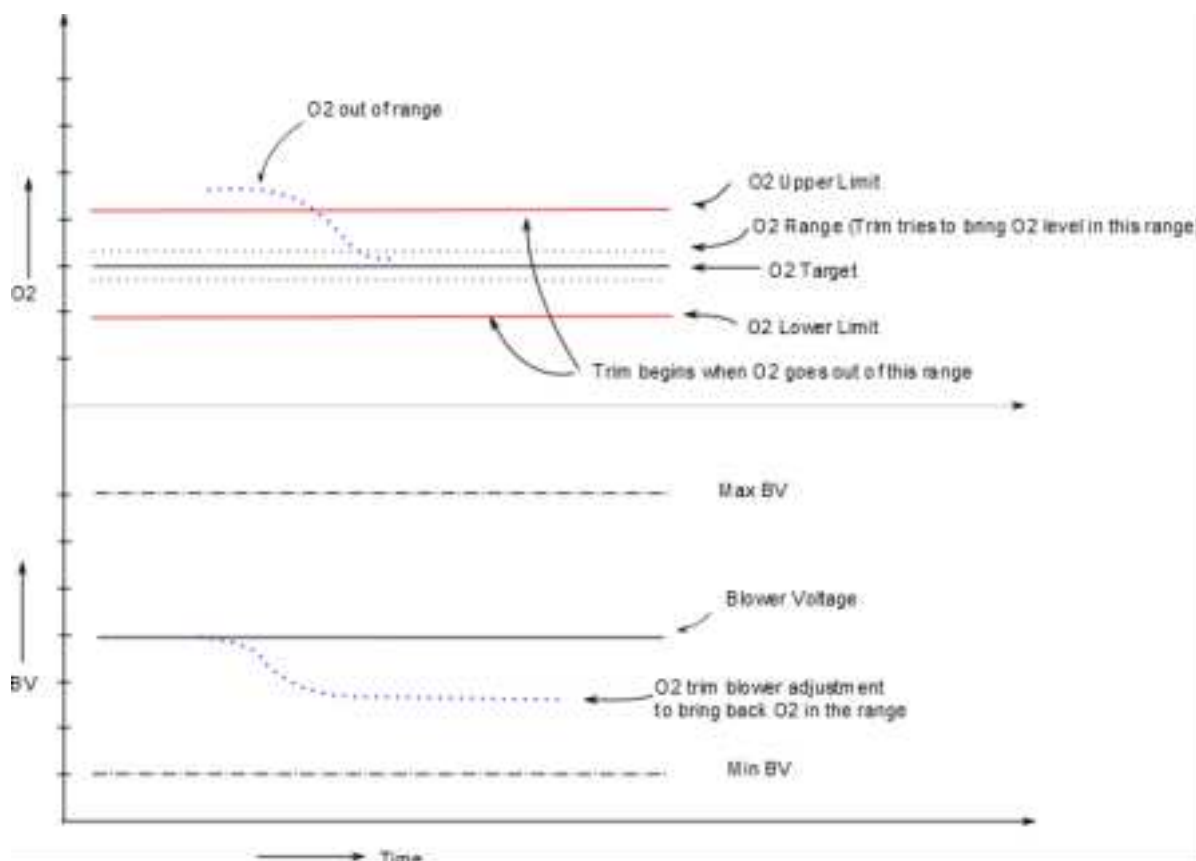

Figure 9-2: AERtrim Logic
Figure 9-2 shows the functional logic of the AERtrim system and how the blower voltage (BV) O₂ Limits, and air/fuel ratio interact during an AERtrim operation. These are fixed presets within the controller. The target range is adjustable within these limits to allow the user to select the optimal air/fuel ratio for a particular boiler or application.
Figure 9-2 shows how the controller would react to an O₂% reading above the upper limit. The controller will reduce the blower voltage (BV) until the O₂% reading is within the Target Range, provided the BV adjustments are within the BV limits for that unit at that fire rate. The control will then store this as the new BV calibration setting until changed manually or by another cycle of the AERtrim function.